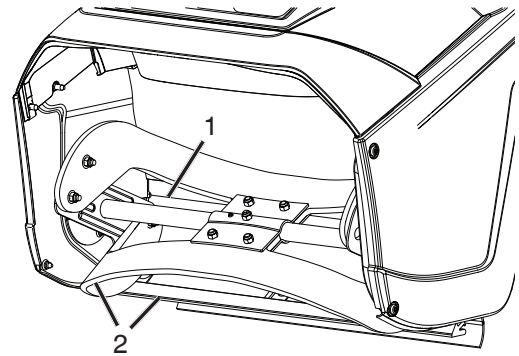

Figure 15
**IMPORTANT:** During initial operation there may be wear between the auger blades and the scraper bar. Maximum performance, both snow throwing and driving, occurs when there is zero clearance between these two parts (Figure 15).